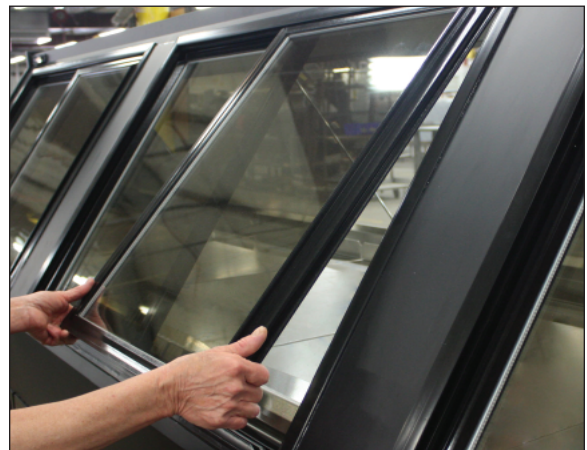

Fig. 16 Rear load door removal
1. Remove the rear sliding doors on the back of the case and clean. To remove: push up and pull out (Fig. 16).